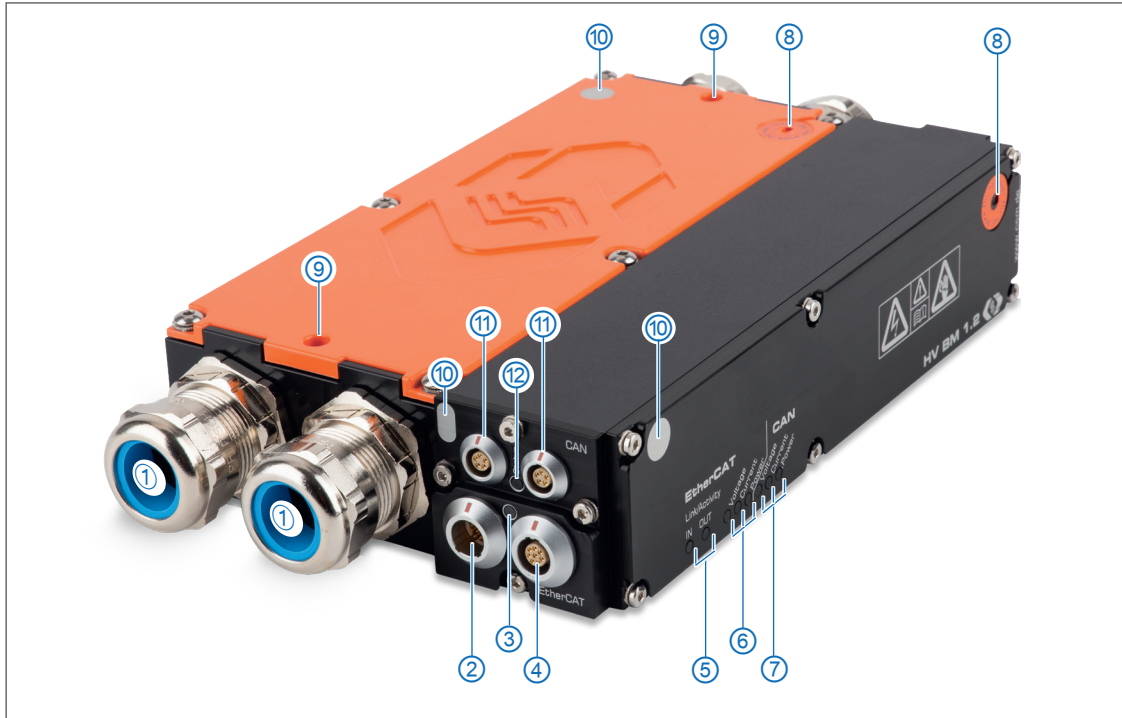

Fig. 3-1: HV BM 1.2, connections and LED indicators
10. Contact surfaces for measuring the resistance of potential equalization or protective earth (PE) to lid ⁴
³ The connections shown in Fig. 3-1 are identical for the versions HV BM 1.2, HV BM 1.2+S, HV BM 1.2+U. The HV BM 1.1 module differs insofar as it is only equipped with one cable gland per side ① and does not have bores for threaded bolts ⑨.
The two-color status LED (Fig. 3-1, ③) is lit red for a few seconds after the module is switched on and then turns off.⁶
The LED indicator (Fig. 3-1, ⑫) between the two CAN sockets indicates the operating status of the measurement module.
The LED indicators for the sockets **IN** and **OUT** (Fig. 3-1, ⑤) are lit or are flashing if the measurement module is electrically connected to an XCP-Gateway or if data is being transferred.
The measurement channel LED indicators (Fig. 3-1, ⑥ and ⑦) show the status of the corresponding measurement channel. There are separate LED indicators for access via CAN bus or EtherCAT® bus. The measurement channels are arranged as follows (left to right):